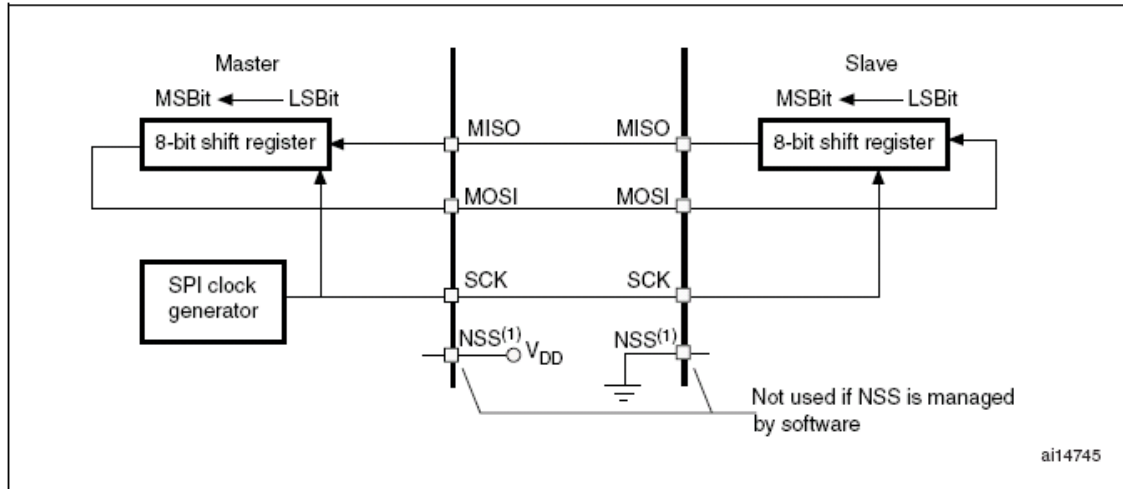

Figure 4. SPI block diagrams.
*SPI* (Serial Peripheral Interface) is one of the on-board inter-IC communication interfaces. It was introduced by Motorola, Inc. (Freescale Semiconductor). Because of its simplicity and generality, it is incorporated in many peripheral ICs similar to the Philips *IIC-bus*. The number of signals of SPI, three or four wires, is larger than IIC's two wires, but the transfer rate can rise up to 20 Mbps or higher depends on device's ability (5 - 50 times faster than IIC). Therefore, it is preferable for applications, such as ADC, DAC, or communication, which require high data transfer rate. The basic structure of the SPI is shown in Figure 4. The master IC and the slave IC are tied with three signal lines, SCLK (Serial Clock), MISO (Master-In Slave-Out) and MOSI (Master-Out Slave-In), and contents of both 8-bit shift registers are exchanged with the shift clock driven by master IC. Additionally an SS (Slave Select) signal can be used to synchronize the start of packet or byte boundary, and multi-slave configurations. Most slave ICs assign different pin names, such as DI, DO and CS, to the SPI interface. For one-way transfer device, such as DAC and single channel ADC, only one data line may be used. The data bits are shifted MSB first.